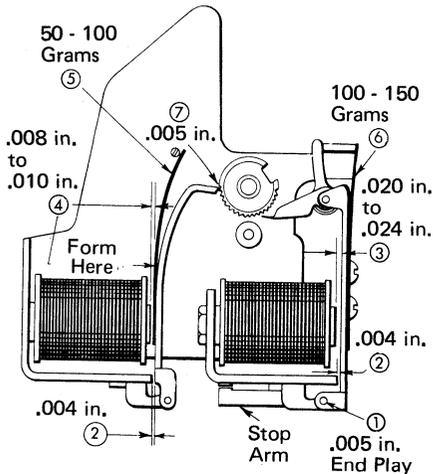

Figure 2-69. Dial Relay Magnets
1. The end play in the armature pivots should not exceed .005-inch (Figure 2-69).
2. A .004-inch clearance should be between the count magnet armature and yoke, and between the restoring magnet armature and yoke when energized. A .003-inch gage should go and a .005-inch gage should not go (Figure 2-69).
3. Form the stop arm under count magnet yoke for .020-inch to .024-inch armature-core air gap when deenergized (Figure 2-69).